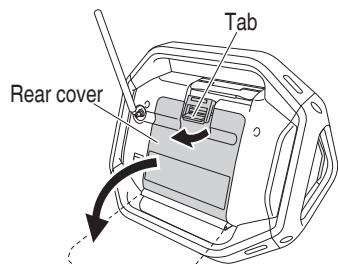

Fig. 1
1. To access the storage box for the backup batteries, unlatch the tab and open the rear cover. (Fig. 1)